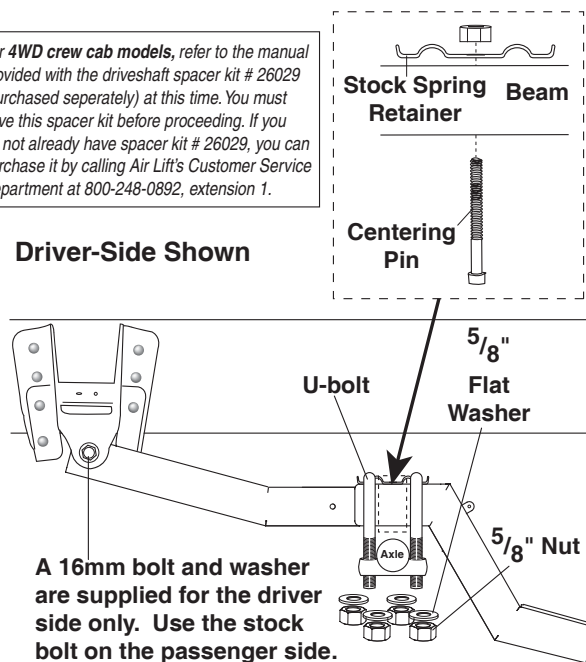

Figure 5
1. Attach the centering pins through each beam with the round head facing down. Tighten the centering pin nut securely (Figure 5).
2. Attach the driver-side beam assembly to the front spring eye hanger using the supplied 16 mm bolt (stock bolt on passenger side) and washer and the previously removed stock nut (Figure 5). Be sure to index the centering pin into the spring perch in order to properly locate the axle and the beam. Leave loose.
3. Attach the beam assemblies to the axle with the hardware shown in Figure 5. Secure snugly, but do not completely tighten at this time.